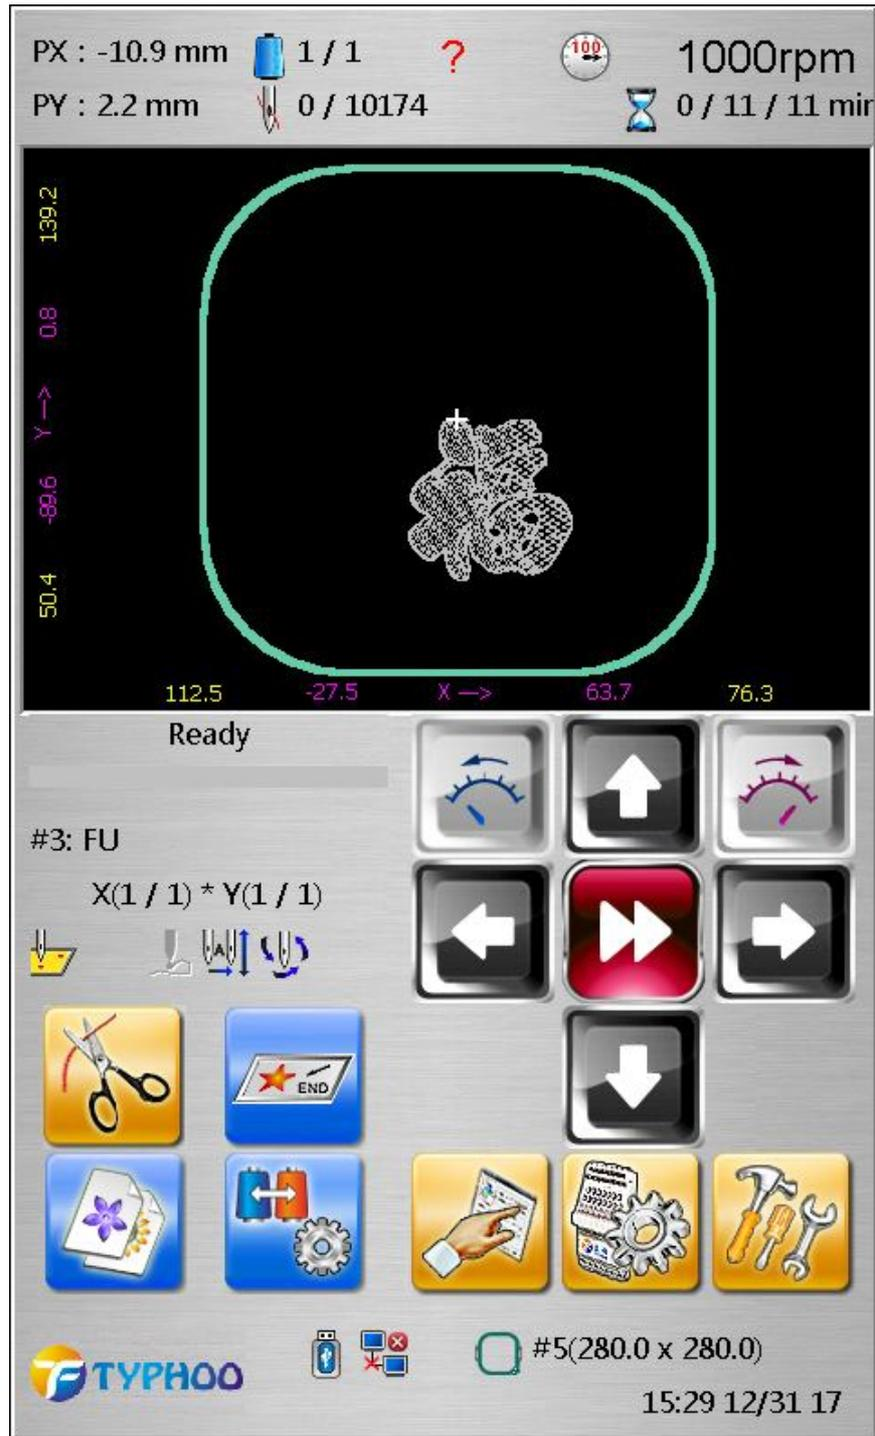

Figure 15-2
2. Press the  key to confirm, the setting is finished. And then the monitor will be display as following, and at the same time the  will be on at the bottom of monitor. See the figure 15-2: